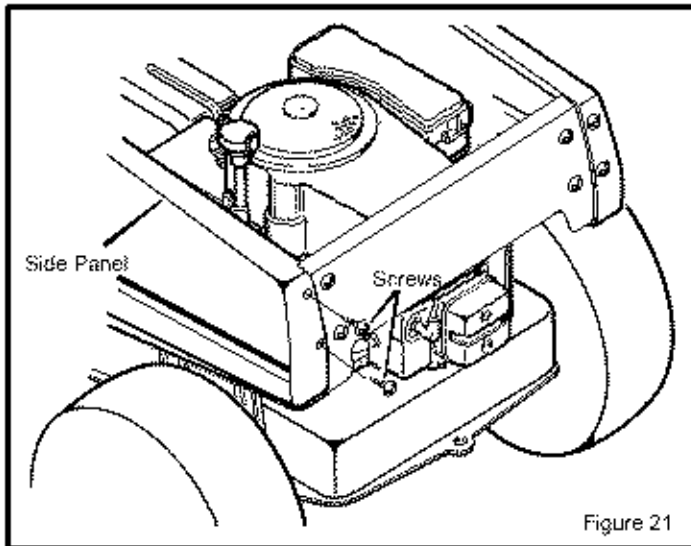

Figure 21
1. Remove the **screws** that hold the back of the **side panel** (Figure 21).